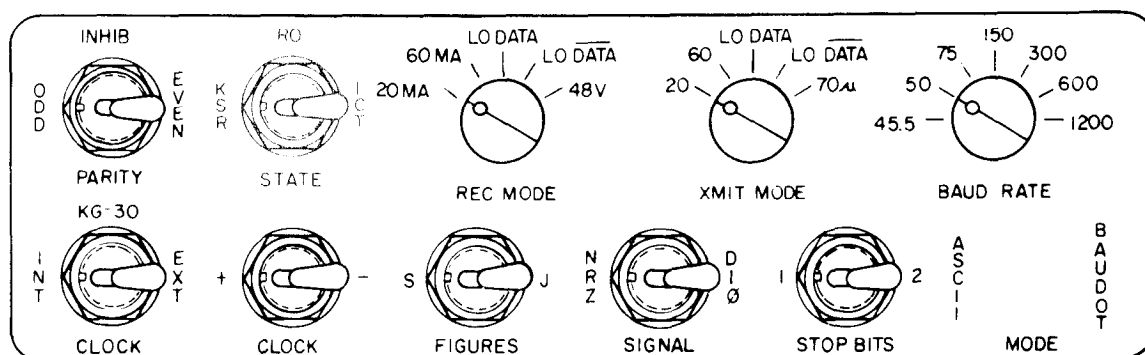

Figure 2-5 STATE SWITCH
- a. The operational states are operator selectable using the STATE switch (refer to fig. 2-5). These operational states are the only states in which the terminal is capable of operating as a communications terminal.